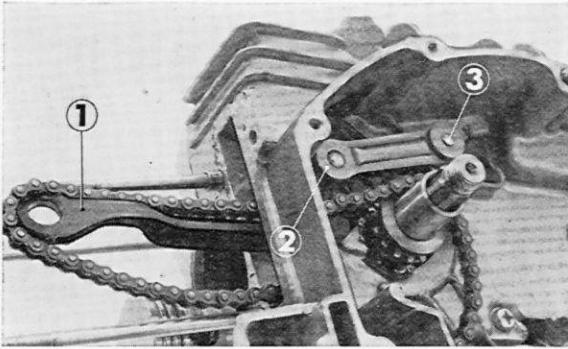

Fig. 2-43 ① Oil guide ② Headed rivet ③ Tensioner arm
3. Tensioner arm may be removed by filing off the headed rivet. (Fig. 2-43)